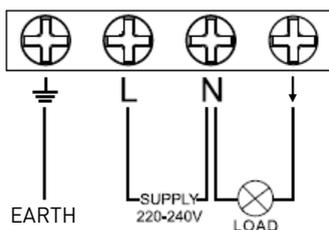

Fig 2
- terminate the mains supply - brown (L), blue (N) and yellow/green (⊕)
- terminate the lighting cables - brown (↓), blue (N), yellow/green (⊕)
- (see Fig 2)